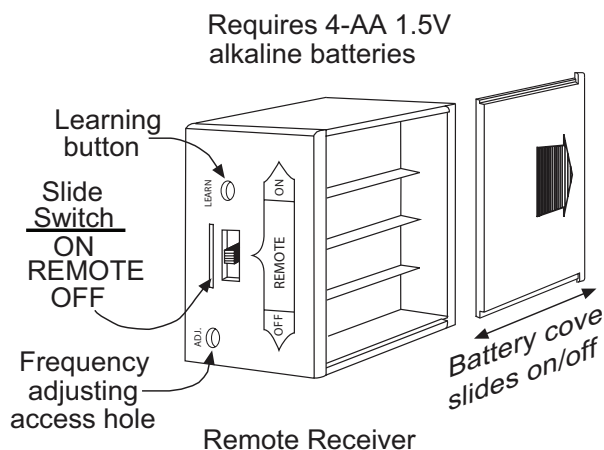

Figure 24 - Attaching Batteries to Receiver
2. Locate the battery cover on the back of the receiver (see Figure 24).